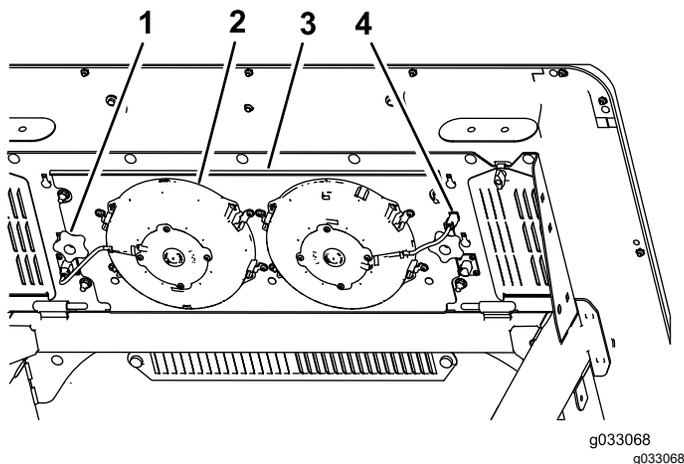

Figure 57
2. Tab (4)
3. Disconnect the plug and cord for the fans from the outlet (Figure 57).
4. Remove the 2 knobs that secure the fan-panel assembly and fans to the underside of the cab top (Figure 57) and remove the assembly.